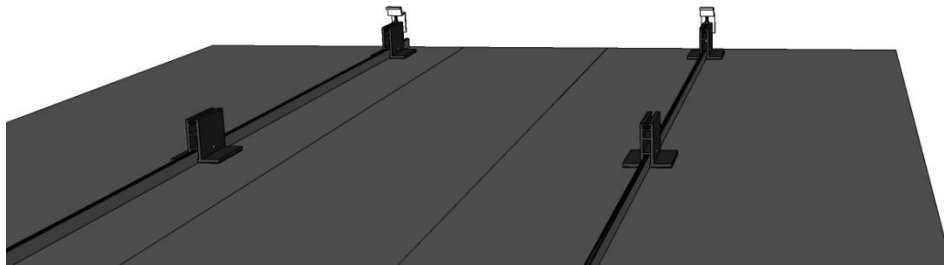

Fig 4
2. Add two more feet parallel with upper mounting feet. Position them so that the module frame will land on these feet one inch from the upper edge of the mounting feet (fig 4).